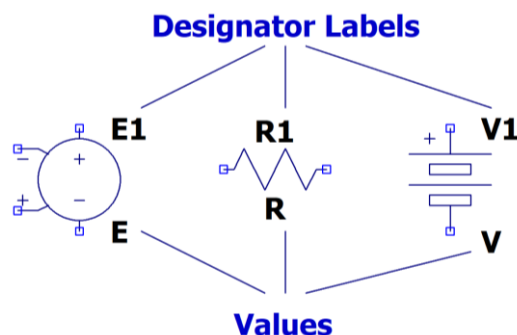

Fig. 5. Element designator labels and values.
6. Elements are automatically given reference designator labels as they are placed on the schematic. LTspice uses them as unique identifiers. Elements usually do not have default values, but if they do, they usually need to be changed. Fig. 5 shows circuit element labels and values.